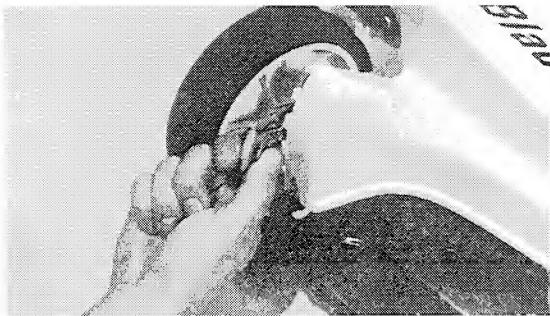

FIGURE 9A
(7) **DELUXE MOWERS ONLY** — Adjust wheels for cutting height by squeezing together the two ends of the adjusting lever and placing it in the proper slot for cutting height desired (Figures 9A and 9B).